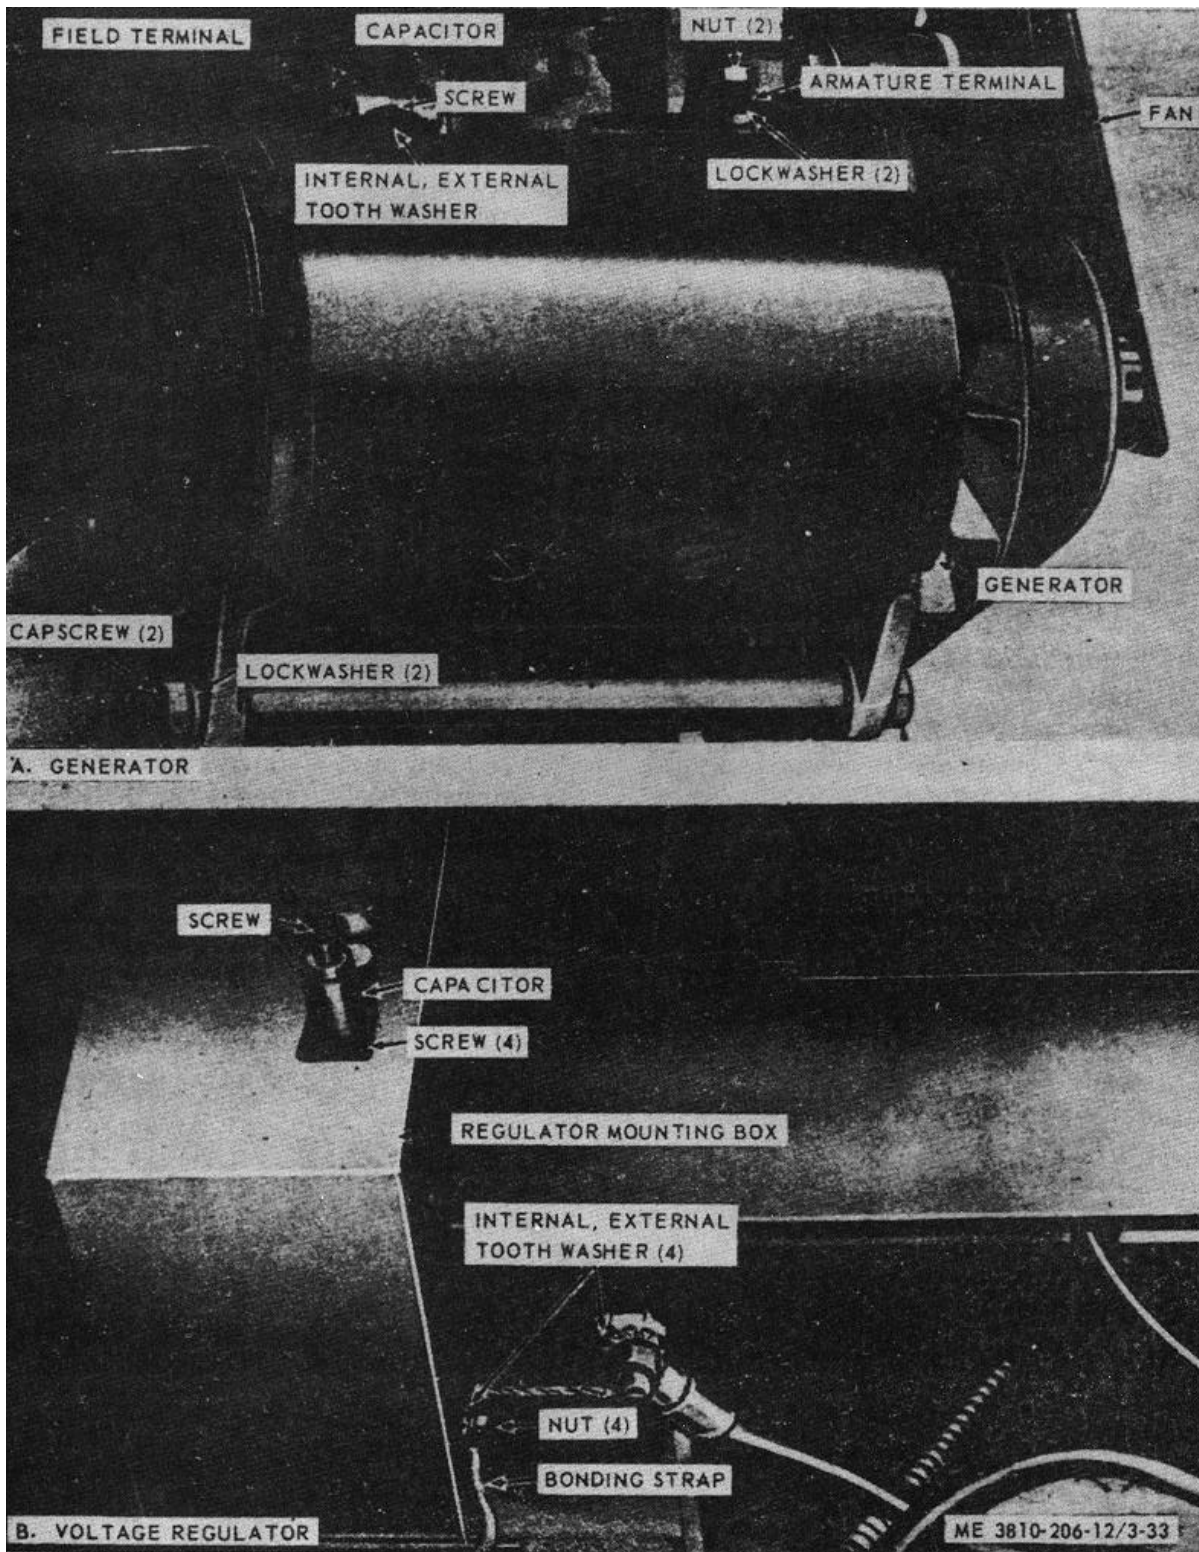

Figure 3-33. Radio interference suppression components.
a. Primary Suppression Components. The primary suppression components are those whose primary function is to suppress radio interference. These components are described and located in figure 3-33.
(1) Remove capscrew (fig. 3-33) and IET washer that secures ground strap to engine.
(2) Remove capscrew and IET washer that secures ground strap to generator, and remove ground strap.
(3) Place new ground strap in position and secure to engine with IET washer and capscrew.
(4) Connect ground strap to generator and secure with IET washer and capscrew.
(1) Remove four nuts and screws (fig. 3-33) that secure regulator and two mounts, and remove regulator.
(2) Place new regulator in position with two mounts and secure with four screws and nuts.